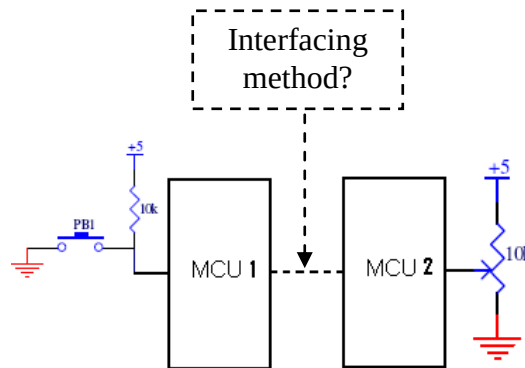

Figure 2: Microcontroller Interfacing
- (a) Figure 2 shows a microcontroller based system. Sketch and explain three typical interfacing methods between MCU1 and MCU2 to expand the system I/Os (input and output).